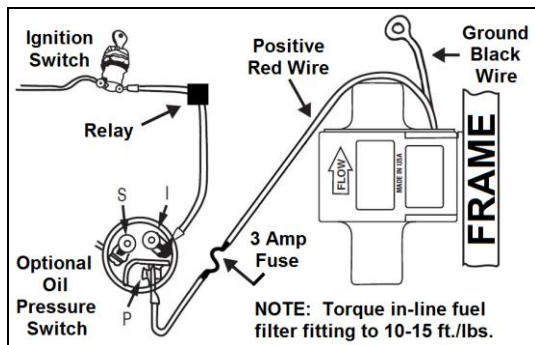

Figure 1
2. Connect the Red power lead to the "P" contact. This stops the pump operation if the engine stops and the ignition switch is ON (Figure 1).